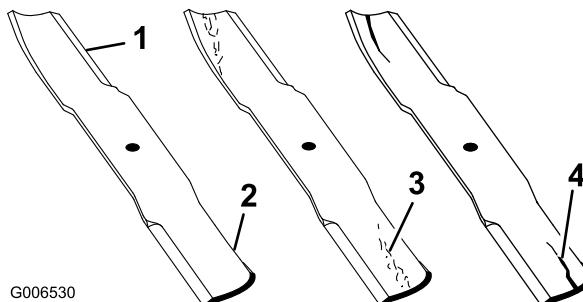

Figure 89
- Inspect the cutting edges (Figure 89). If the edges are not sharp or have nicks, remove and sharpen the blades. Refer to Sharpening the Blades.
- Inspect the blades, especially the curved area (Figure 89). If you notice any damage, wear, or a slot forming in this area (Figure 89), immediately install a new blade.